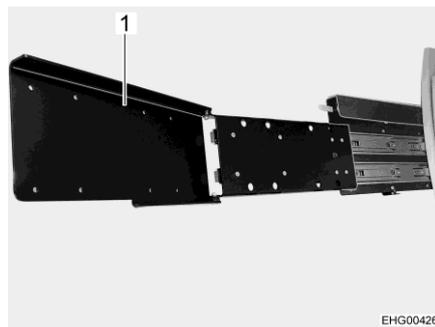

Fig. 95 Pull-out (extended and folded)
- To turn the flat screen to the rear area: fold pull-out (Fig. 95,1).